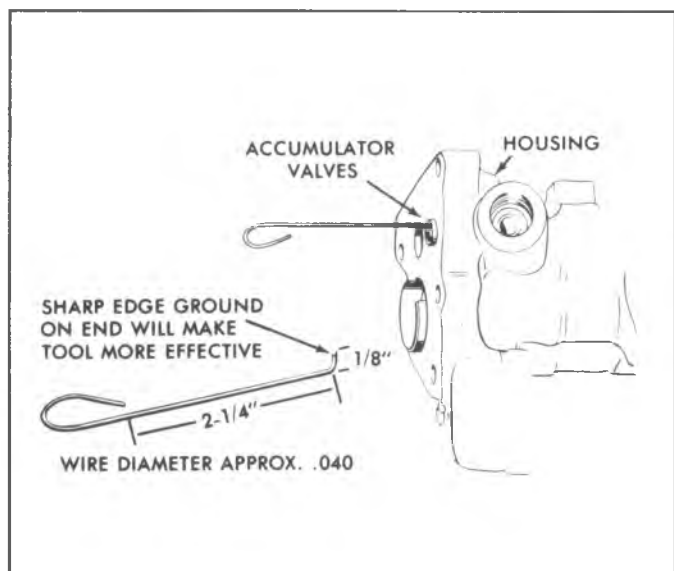
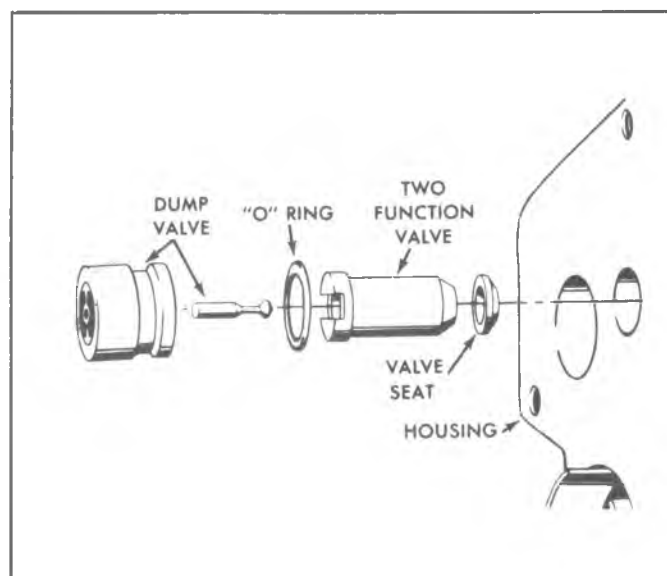

Fig. 5-5E--Removing Accumulator Valves
Fig. 5-8E--Accumulator Valves
15. If accumulator valve was determined to be faulty, remove valve using a small diameter wire tool (fig. 5-5E). Remove the dump valve by catching the tool under the pin guide near the center of the valve, then remove two function valves and seat (fig. 5-8E).
10. If accumulator valve was removed, install new seat into the valve bore. The seat can be forced to the bottom by installing the two function valve (fig. 5-8E). Make certain the check valve seat is cup side up when in bore.